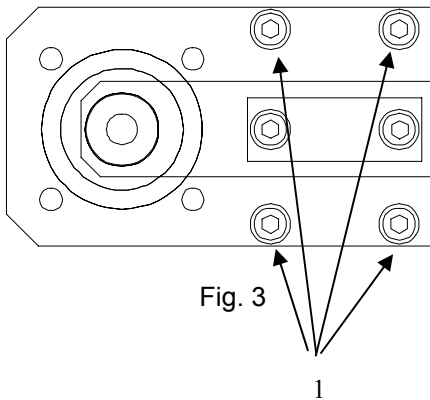

Fig. 3
2. Loosen the 4 screws of the motor support (Fig. 3/1) . Remove encoder.